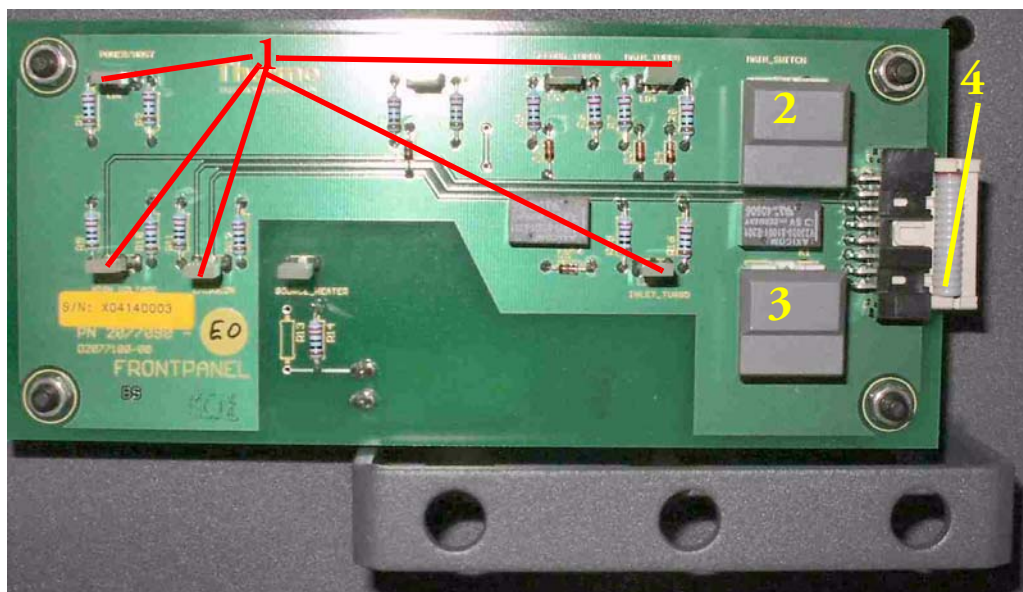

Figure 3-2. Control Panel Board
The Control Panel board, Figure 3-2, is covered by the Control Panel (refer to “Control Panel” on page 2-5). Therefore, it cannot be seen from outside. Access to it is usually not necessary. It contains the components summarized in Table 3-1.
*See Figure 3-2 and refer to “Control Panel” on page 2-5.